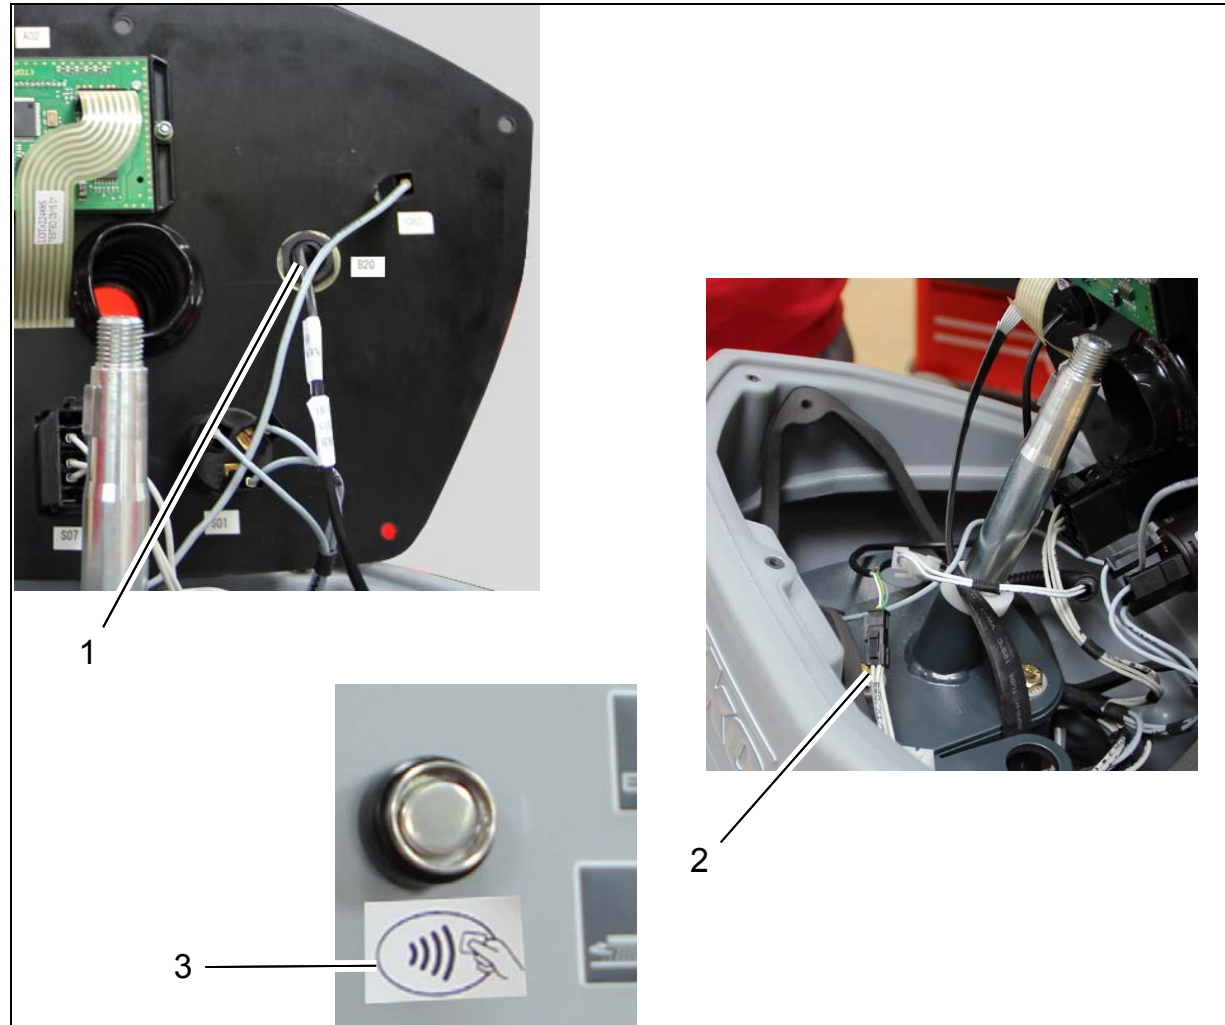

Fig. 2
3. Cut into the film in the area of the right-hand hole on the rear of the control panel (Fig. 2/1).
5. Connect the plug of the I-Button-Reader to the 4-pole plug B20/X1 of the existing W60 cable loom (Fig. 2/2).